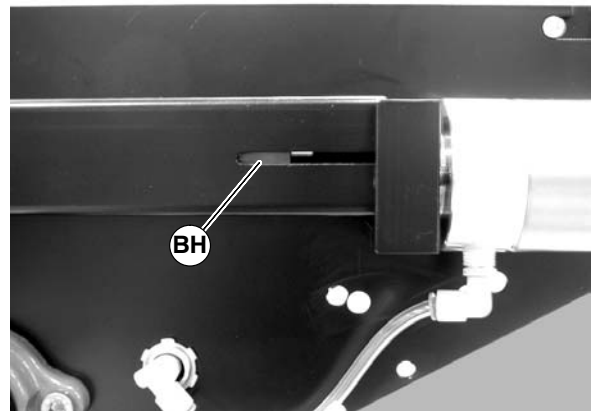

Figure 35
3. If proper belt tension cannot be achieved before the out of tension indicator (BH of Figure 35) begins to turn red, the belt must be replaced.